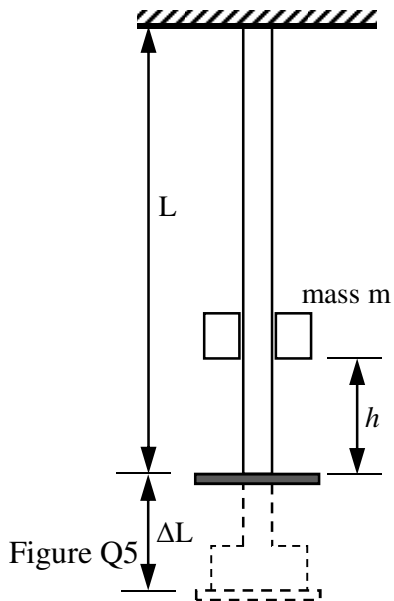

Figure Q5
- b) i In Figure Q5, the mass m falls through height h onto the collar at the lower end of the bar, causing a maximum extension in the bar of ΔL . Show, from first principles, that the static force P that will cause same extension when gradually applied is given as: